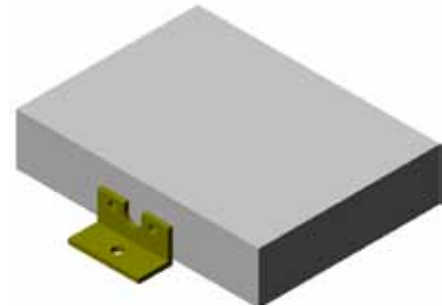

Figure 78
- Mount radio tabs to OEM radio using OEM hardware. Figure 78